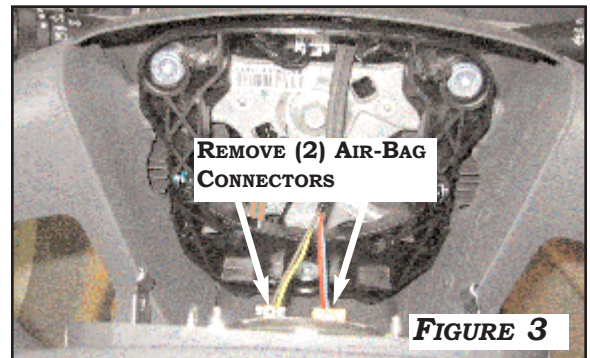

FIGURE 3
3. PRESS IN SIDES OF BOTH CONNECTORS TO REMOVE AIRBAG AS ILLUSTRATED IN **FIGURE 3.**